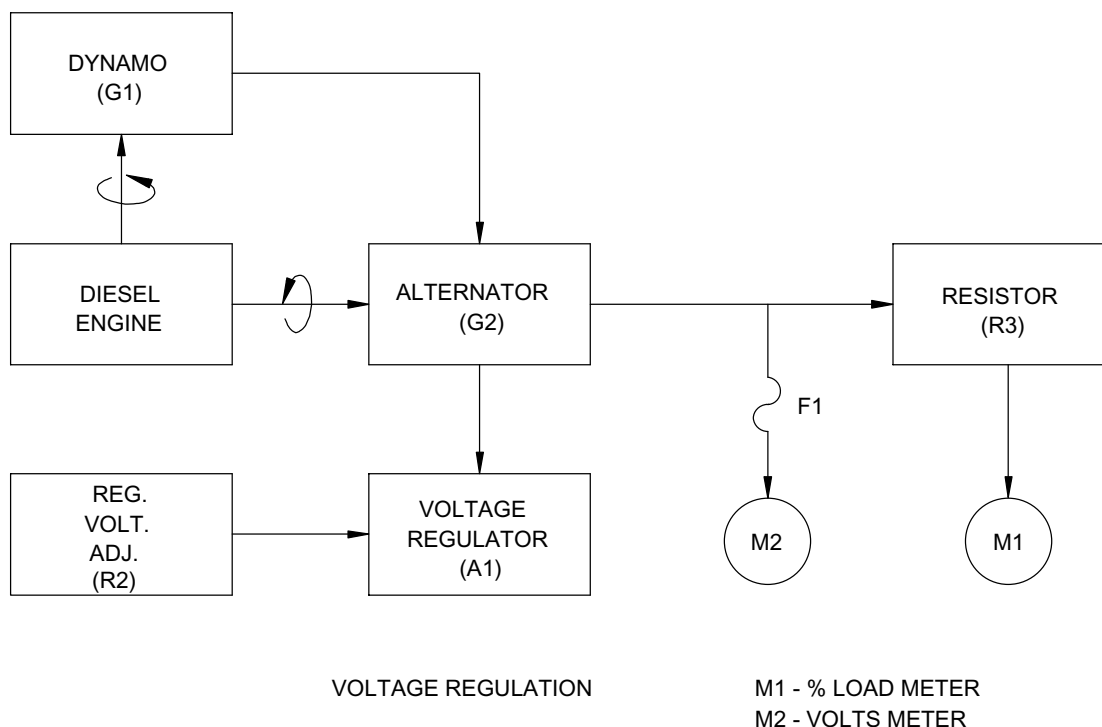

Figure 1-9. Generator Voltage Regulation System (MEP-501A)
1.22.1. The generator voltage regulation and output supply system (Figures 1-9 and 1-10) senses the load being drawn at the load terminals and adjusts the alternator output accordingly. The system also monitors and adjusts generator set performance.
1.22.3. Voltage Regulation. (Figure 1-9)